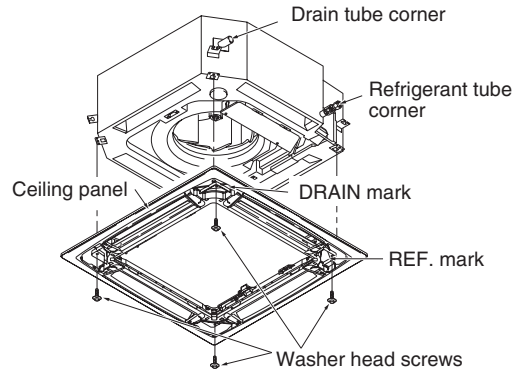

Fig. 7-5
- 3) Tighten the supplied washer head screws at the 4 panel installation locations so that the panel is attached tightly to the unit. (Fig. 7-5)